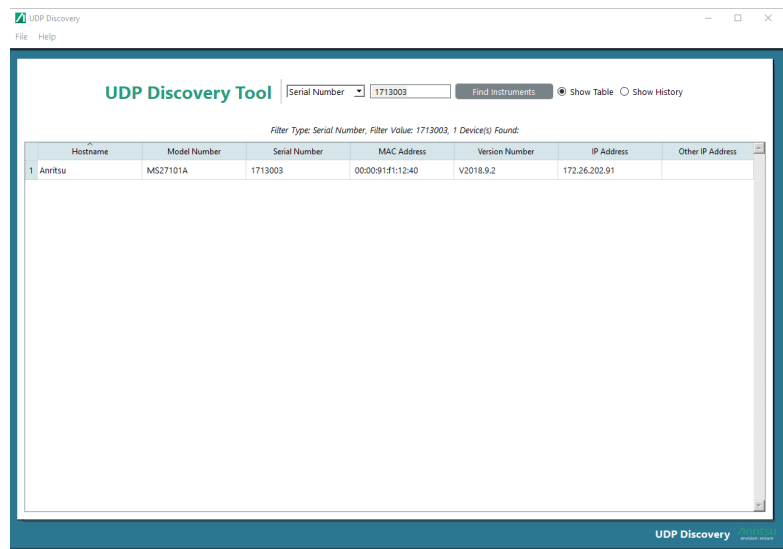

Figure 5. Locate Instrument
- 4. Click the Find Instruments bar. If the instrument is located, the instrument details will be displayed as shown in Figure 5.
Show Table : Click this radio button to display the device connection details as shown in Figure 5.